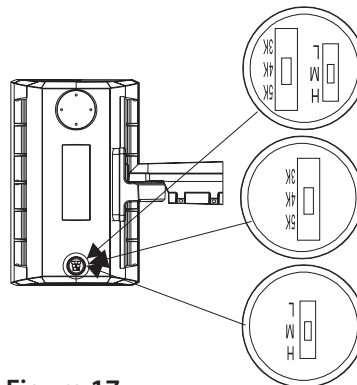

Figure 17
Step 2: After adjusting the required control function, tighten the metal plug clockwise (Figure 17).